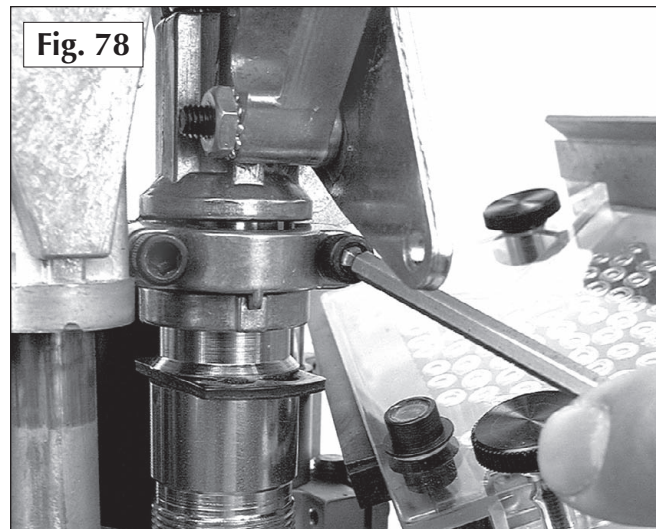

Fig. 78
2. Using a 5/32" Allen wrench, unscrew the two 10-24 screws that hold the clamp and slide the clamp away from the powder die (#16744). **Fig. 78**